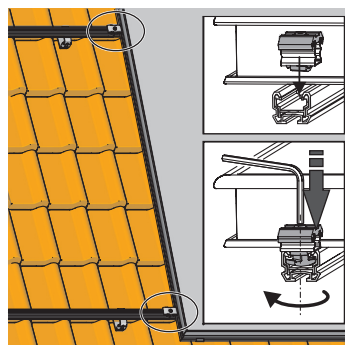

Fig. 3-20 Inserting double clamping block
1. Insert the double clamping blocks in the upper and lower mounting profile rail, push down with the Allen key placed on the bolt and turn it clockwise by approx. 45° (so that the bottom clamping profile moves to the clamping position) (Fig 3-20).